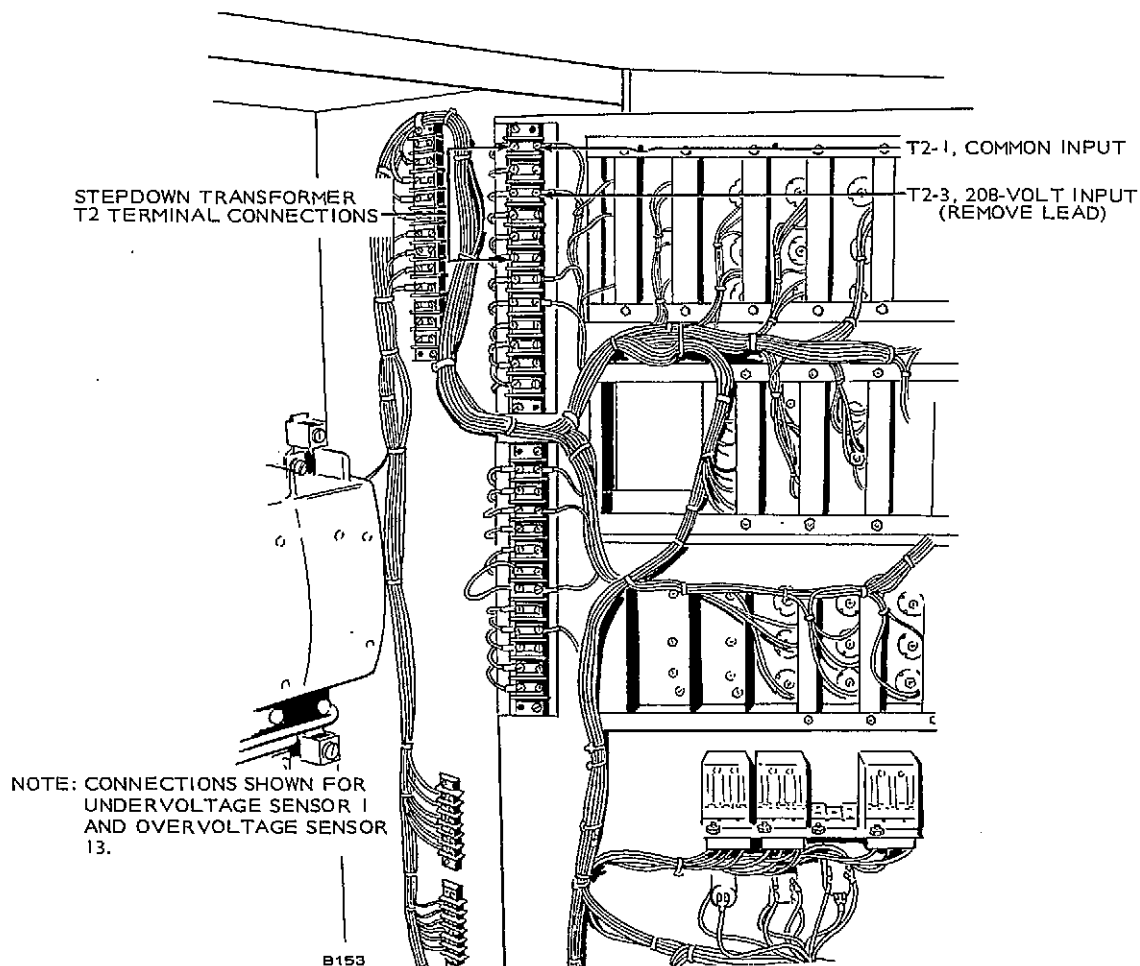

FIGURE 13. VOLTAGE SENSOR TRANSFORMER CONNECTIONS
10. On the back side and top left of the control accessory panel, remove the white plastic cover which covers the transformer terminals for T2 and T3 (Figure 13).
9. On the back side and top left of the control accessory panel, remove the white plastic cover which covers the transformer terminals for T2 and T3 (Figure 13).